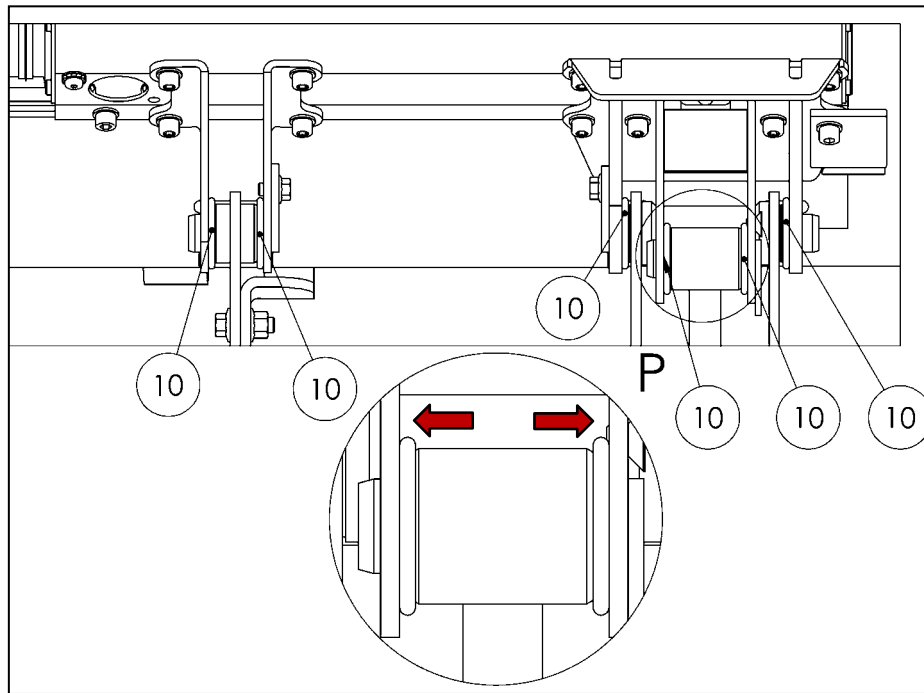

Figure 62
- Move the 6 pre-fitted O-rings (accessories kit parts list – Item No. 10) into their correct positions (see Fig. 62).